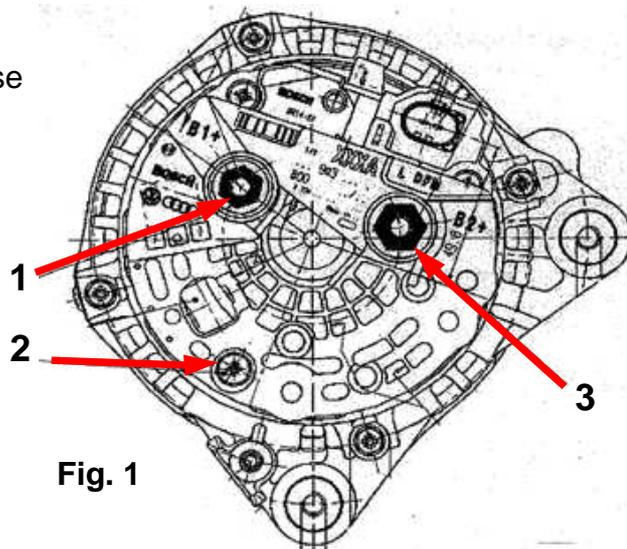

Fig. 1
- Unscrew the regulator screw (see Fig. 1, Item 2).
- Unscrew the locknuts at the rear of the alternator (see Fig. 1, Items 1 and 3).
- Tighten the lock nut (see Fig. 1, Item 3) to a torque of 12 Nm.
- Tighten the lock nut (see Fig. 1, Item 1) to a torque of 32 Nm.